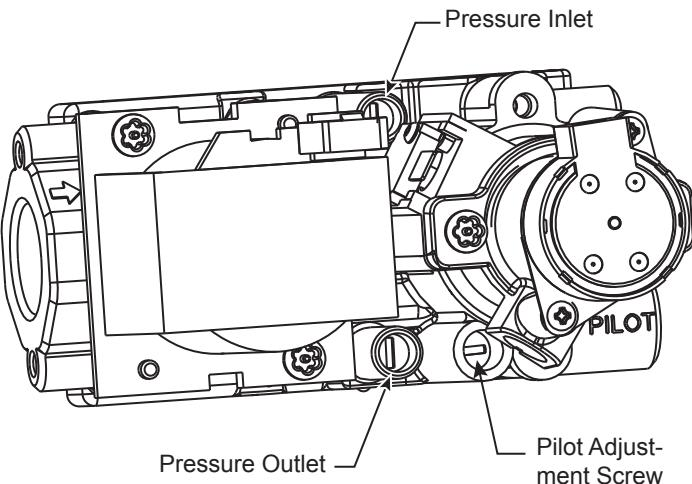

Figure 43 -
4. To check gas pressures at valve, turn captured screw counter clockwise 2 or 3 turns and then place tubing to pressure gauge over test point. Turn unit to high. *Figure 43.* After taking pressure reading, be sure and turn captured screw clockwise firmly to reseal. Do not over torque. Check test points for gas leaks.